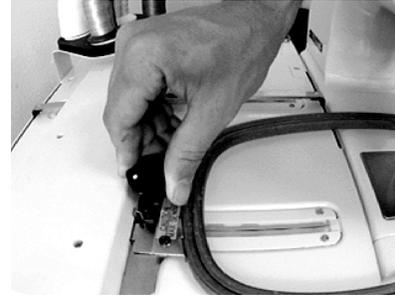

Figure 3-3
4. When the mounting plate is firmly placed on the guide pins, turn the mounting knob clockwise to secure the hoop, as shown in Figure 3-3.